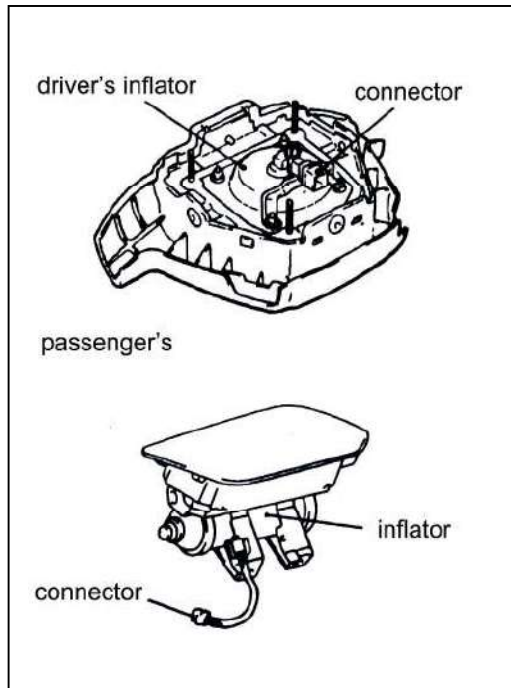

Fig 19-13
4. Driver's and passenger's air bag modules (See fig 19-13)